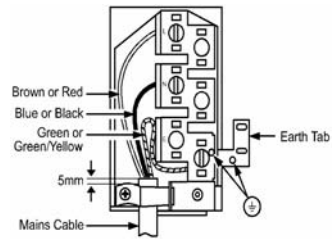

Fig.11
- Make connection as shown in Fig. 11 by proceeding as follows:-
- Clamp the mains cable securely ensuring 5mm of the outer insulation is inside the terminal block and that the wires are not taught but not so slack as to cause any fouling. See Fig. 11.